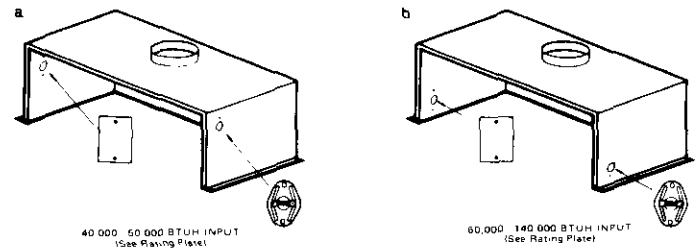

Figure 28 (4-023)
a. If gas and electrical controls are "as-shipped", install VLS as follows. See Figure 28 for correct VLS and hole cover location if you moved draft diverter.